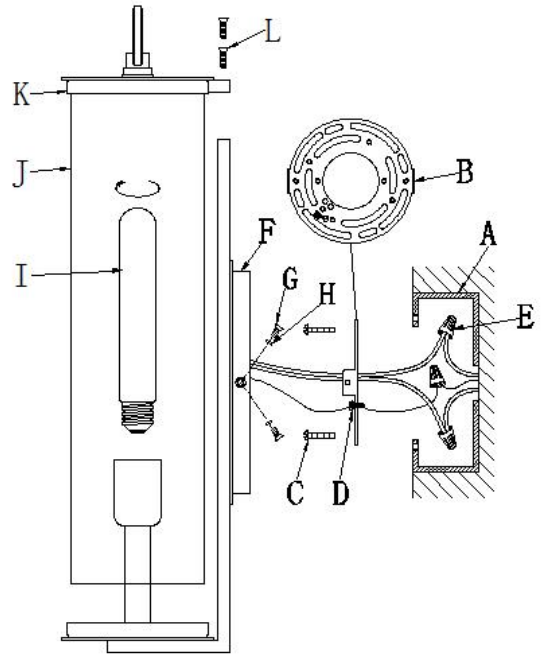

Fig.2
CONNECTING THE WIRES (Fig. 2)
4. Connect electrical wires as shown in Fig.2 with connectors (E), making sure that all wire connectors are secured. If your outlet box (A) has a ground wire (green or bare copper), connect fixture's ground wire to it. Otherwise, connect fixture's ground wire directly to mounting plate (B) using green screw (D) provided.
5. Tuck wire connectors neatly into the outlet box (A).